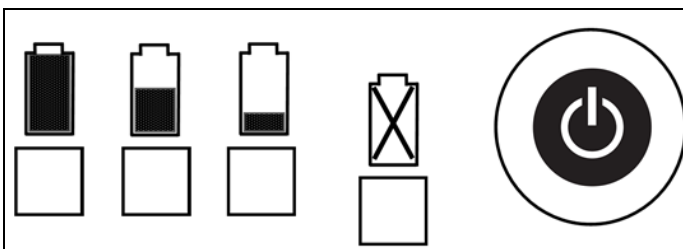

Fig.10
- Clean the area around the oil tank cover (Fig. 10) and then clean the oil tank cover.
Battery capacity indicator (Fig.10)